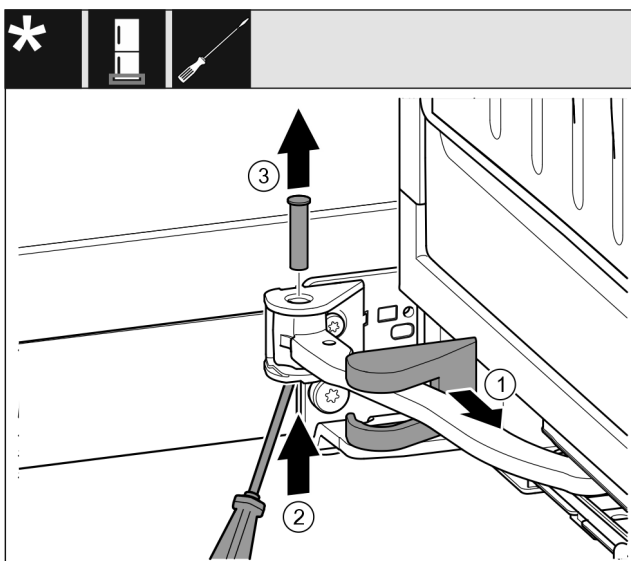

Fig. 17
- Remove the swap bearing block cover Fig. 17 (1) and slide along the joint.
- Use a screwdriver to lift the bolt Fig. 17 (2) from below.
- Pull out the bolt Fig. 17 (3) from above.